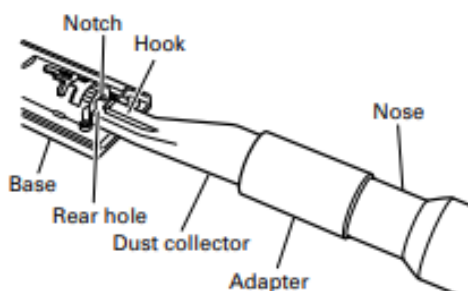

Fig. 17
- (6) Insert dust collector into the rear hole of the base until the hook catches in the notch. (Fig. 17)